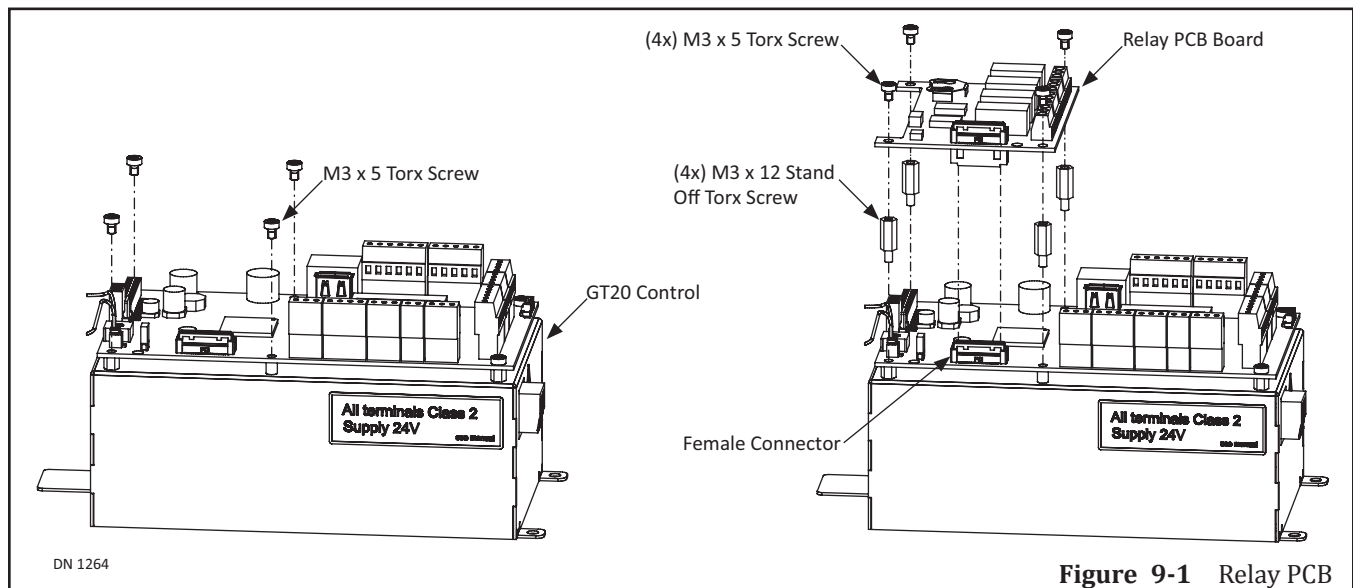

Figure 9-1 Relay PCB
2. Use a T-10 Torx Allen Wrench to remove (4) M3 x 5 Torx Screws used to secure the GT20 Control Board. Set Aside. Please see Figure 9-1.
- a. The (4) Torx screws are located at (2) corners on the opposite side of the Terminal Strips and (2) middle location on the opposite side of the Relay PCB Board Connector Strip.